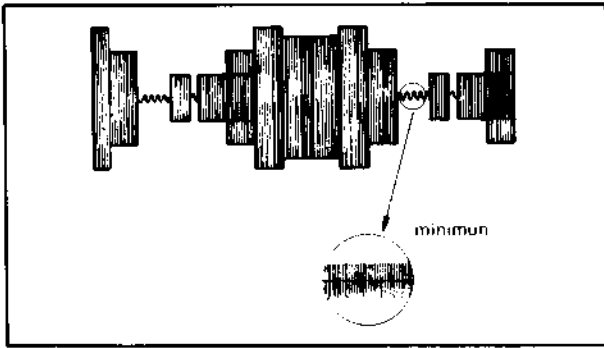

Fig. 6-37 Main converter balance adjustment
3. Adjust R216 (CONV. BAL.) so that the carrier leak of TP-206 minimum, as shown in Fig. 6-37.